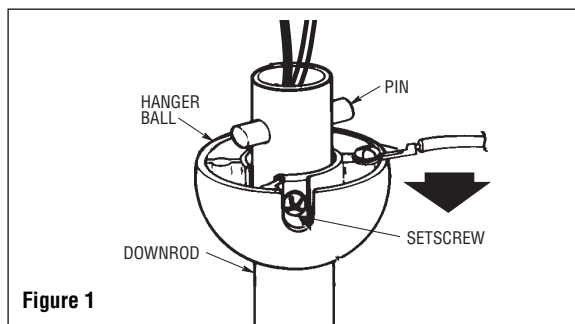

Figure 1
1. Remove the hanger ball by loosening the setscrew in the hanger ball until the ball falls freely down the downrod (Figure 1). Remove the pin from the downrod, then remove the hanger ball. Retain the pin and hanger ball for reinstallation in Step 4.